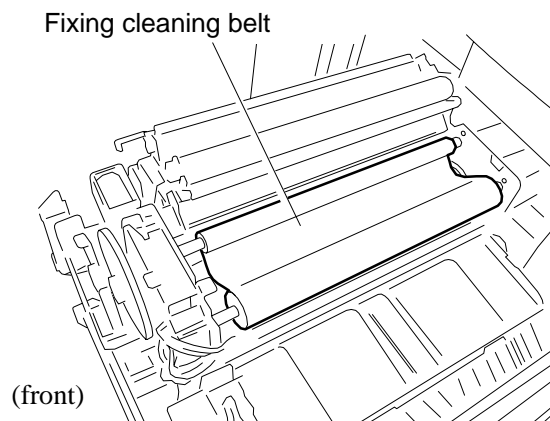

Fig. 1
1) Remove the fixing cleaning belt. (Figure 1)